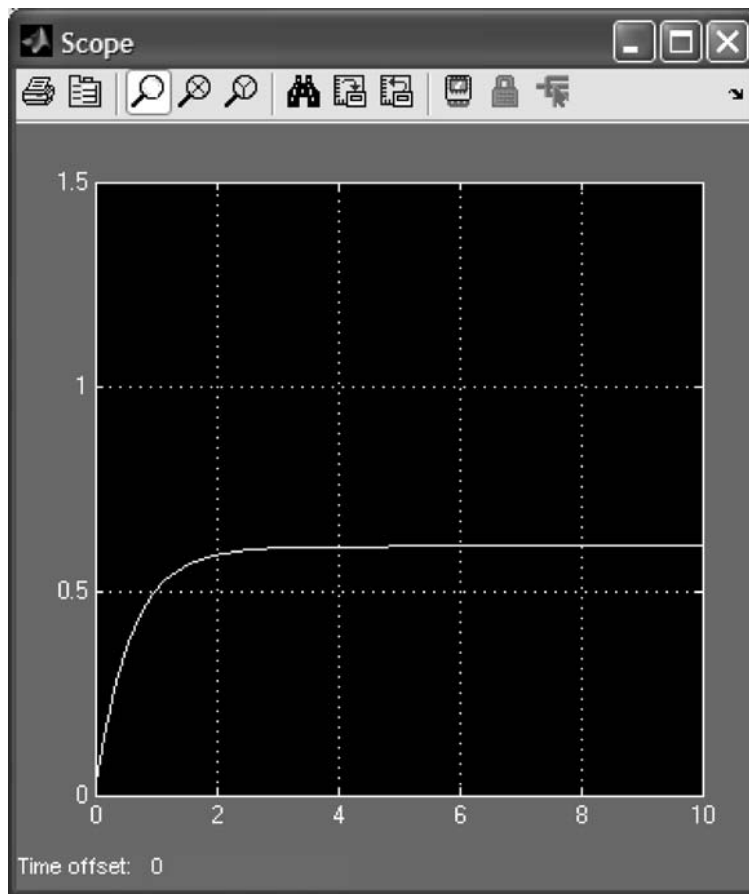

FIGURE C.14 Simulation output for Example C.3
In this example, we have added a feedback path (see Step (4) in Section C.2) and a summing junction, which is obtained by dragging the **Sum** block from the **Simulink Library Browser**, contained in the **Math Operations** library, to your model window. The **Function Block Parameters: Sum** window, Figure C.13(b), shows the parameter settings for the summer. You can set the shape as well as set the plus and minus inputs. In the list of signs, the “|” symbol signifies a space. We place it at the beginning to start the signs at “nine o’clock,” conforming to our standard symbol, rather than at “12 o’clock.” The result of the simulation is shown in Figure C.14.